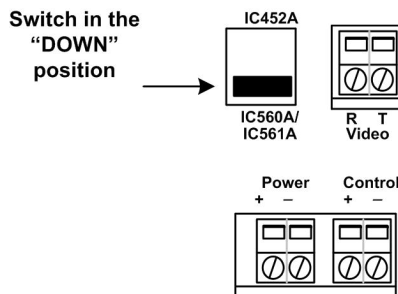

Figure 14: Port Setting – Power-Thru Mode (IC560A/IC561A)
6. In order to transmit video on one (1) twisted pair and remote power on three (3) twisted pairs, set the port switch to Power-Thru Mode (IC560A/IC561A) as shown in figure 14. Ensure that there is a CCTV Power-Thru Balun (IC560A or IC561A) at the camera.